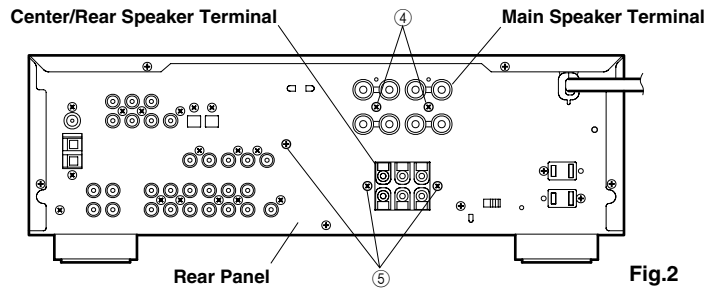

Fig.2
- Remove 2 screws (4) fixing the Main Speaker terminal in Fig. 2.
- Remove 3 screws (5) fixing the Center/Rear Speaker terminal and the Heat Sink in Fig. 2.